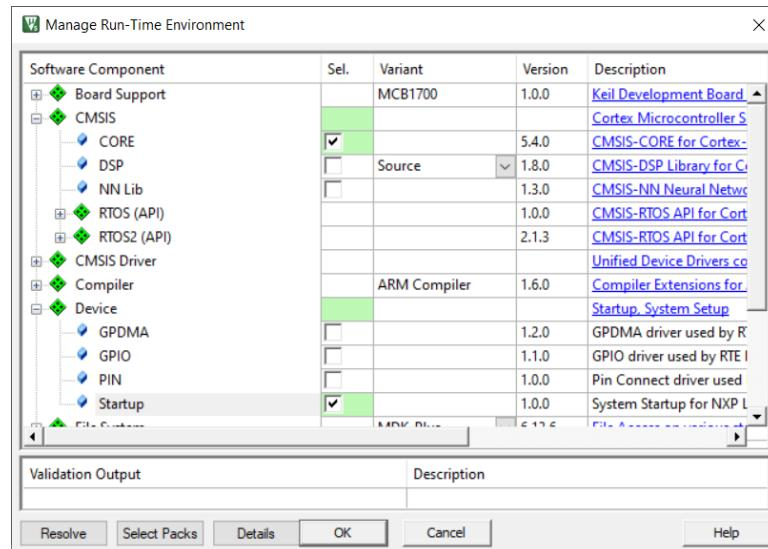

Figure 8.3: Keil IDE: Manage Run-Time Environment
- Select CMSIS → CORE and Device → Startup (See Figure 8.3).